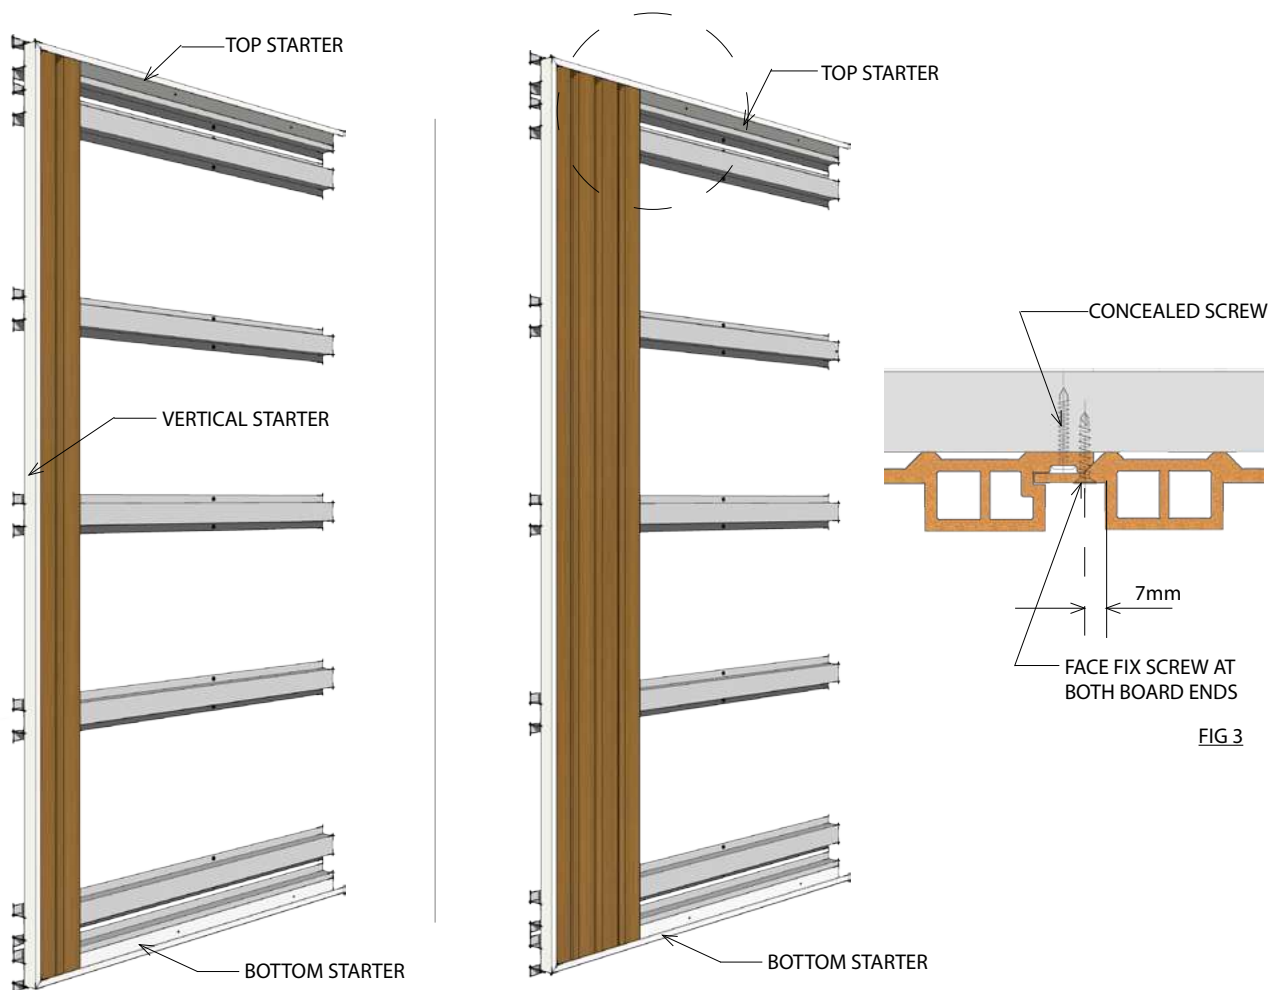

FIG 3
- 4e. Face Fix board ends as per Fig.3
5b.c. Ensure face fixing is carried out at butt joint as per Fig.3 at step (4b).
6d. If ripped board exposes a cavity which will need to be screwed through then packing should be glued in at screw locations. Ref Fig 3. Packing should be approx 20mm Thick x min 40mm long.